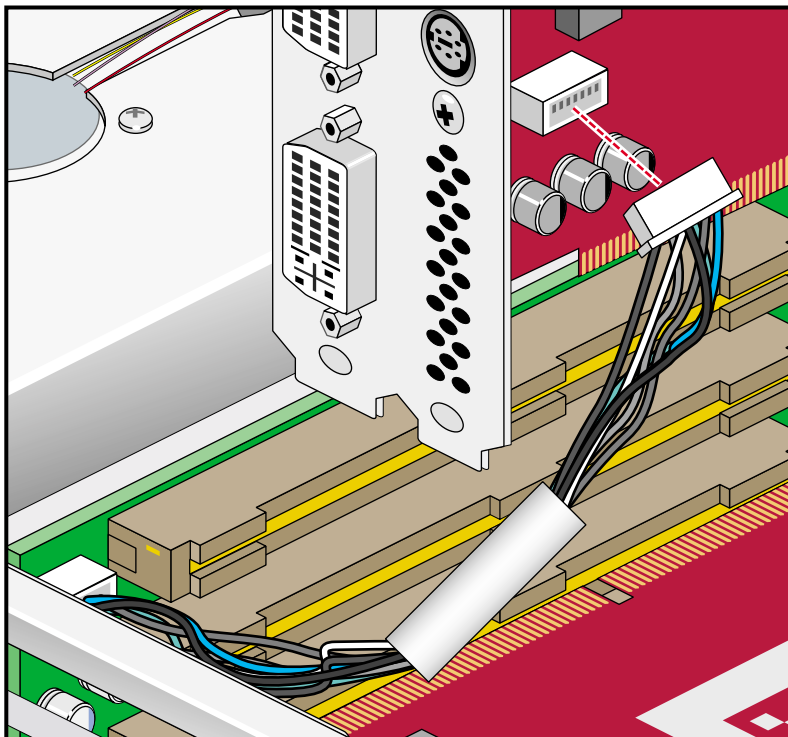

Figure 4-20 Synchronization Cable Connection on Underside of Graphics Board
12. Carefully rotate the board over and disconnect the 7-pin keyed synchronization cable from the bottom of the graphics board (it attaches the graphics card assembly to the PCI riser board). See Figure 4-20 on page 96.
2. Gently insert the 7-pin synchronization cable into the connector on the bottom of the replacement graphics card (see Figure 4-20). The connector is keyed and will only insert in the proper orientation. You should hear or feel a slight snap as the connector is seated.